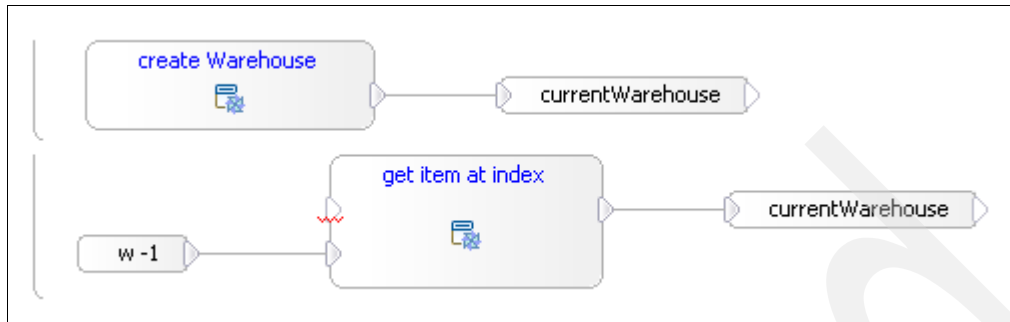

Figure 3-205 Set the output of *get item at index*
- c. Wire **get item at index** to **currentWarehouse** as shown in Figure 3-205.